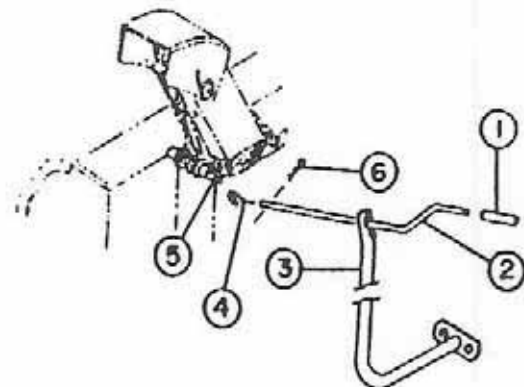

FIGURE 13
- i) Install 1/2 X 3" handle grip (fig. 13, item 1) on chute rotation handle (item 2) and place handle through grommet in rotation support bracket (item 3).
- j) Install hook (fig. 13, item 4) on rotation worm (item 5). Insert hook in rotation handle and lock in place with a 2.5mm hair pin (item 6).